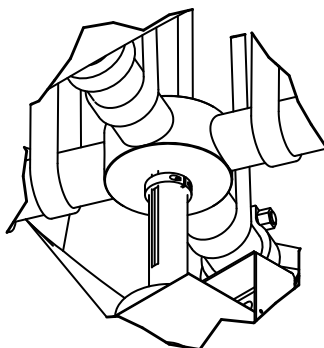

Figure 40. Key Lineup
6. Line up the key with the slot. Slowly lower the fan onto the shaft until the fan hub is flush against the factory installed tangent locking collar (**Figure 40**).